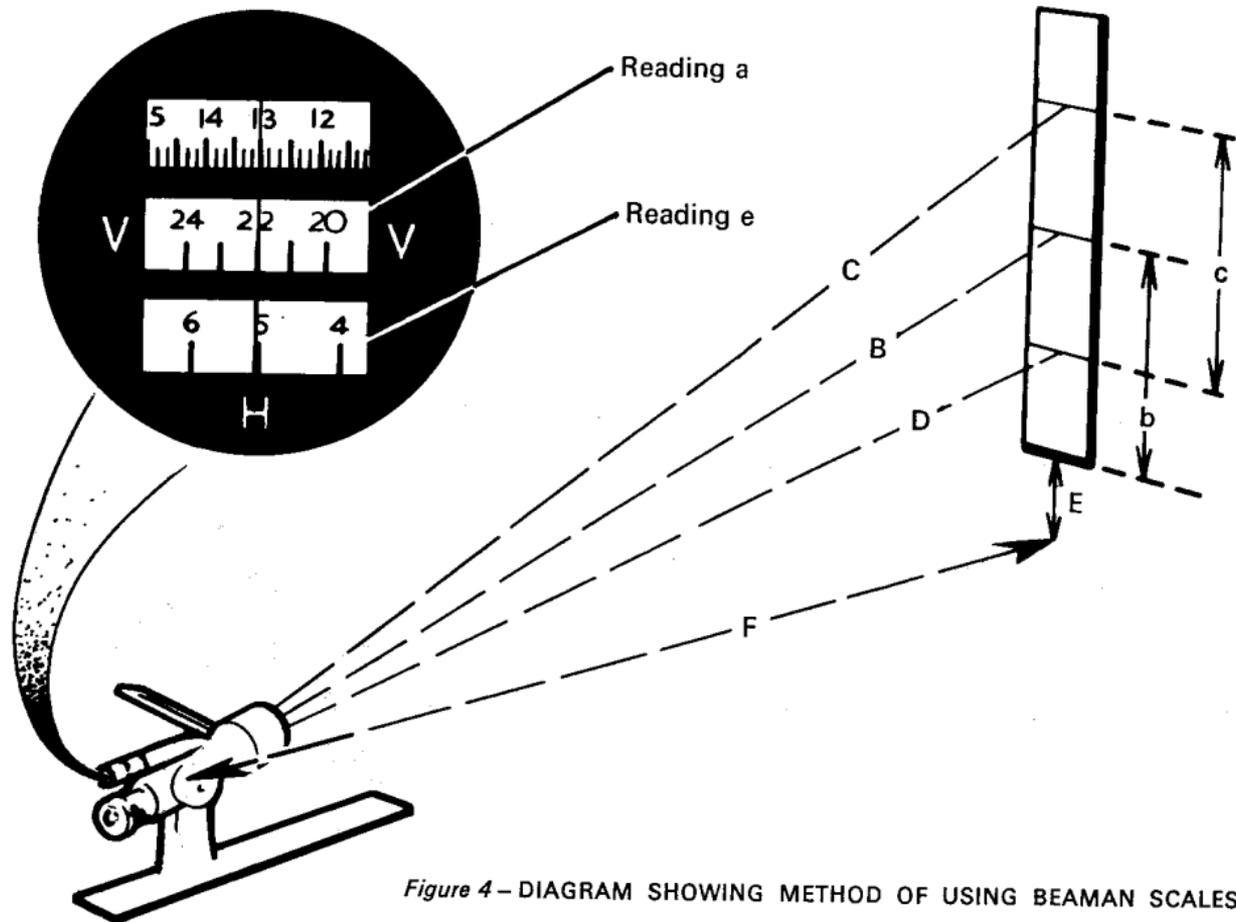

Figure 4 - DIAGRAM SHOWING METHOD OF USING BEAMAN SCALES
- (1) Centre the altitude bubble.
- (2) Set up the levelling staff and sight the telescope anywhere on it, then use the tangent screw to bring the nearest graduation of the "V" scale exactly onto the index line. Note this whole-number reading (a Figure 4) and book it as plus for elevation or minus for depression. Remember that although only the first few graduations either side of zero are marked + or –, all "V" readings made with the telescope depressed must be booked as minus.
- (3) Take the staff reading b at the centre line of the graticule (B Figure 4) and then note the distance c on the staff intercepted by the graticule stadia lines (C and D).
- (4) The vertical height E of the base of the staff above or below the telescope axis is given by
- (5) With the instrument set up as described in the previous section, adjust the telescope to align the nearest graduation of the "H" scale with the index line. Note the reading e (see Figure 4). This value is always positive irrespective of whether the telescope is elevated or depressed.
- (6) Read the new stadia intercept c . The true horizontal distance F between the staff and the centre of the telescope is
The slant distance from the telescope to the staff mark coinciding with the horizontal crossline is one hundred times the stadia intercept c (Figure 4).